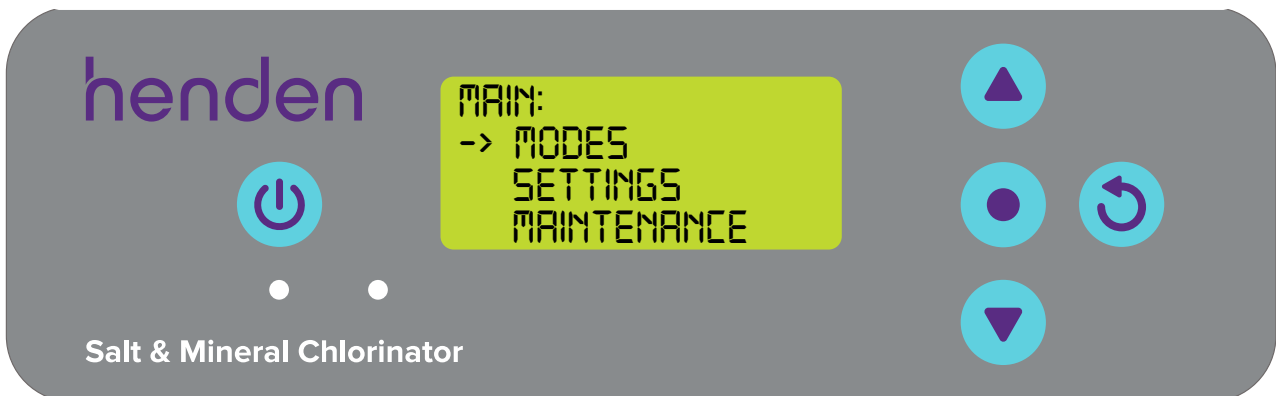

Figure 8.30
- From the **HOME SCREEN**, press the **menu/setting select** button. This will now show the main menu (Figure 8.30)